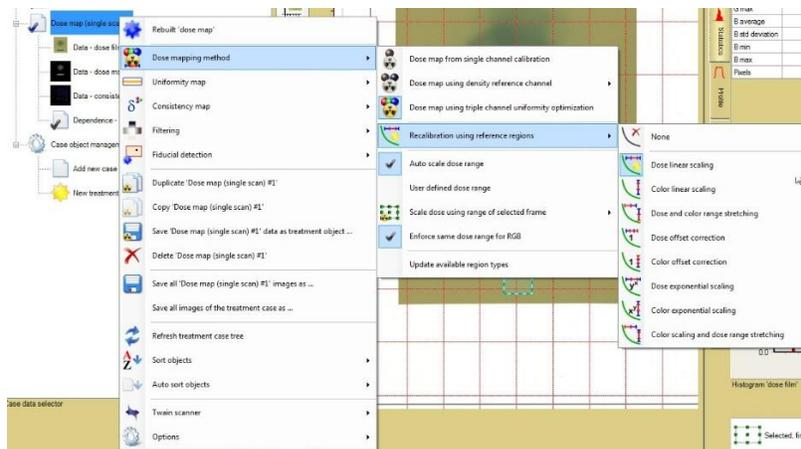
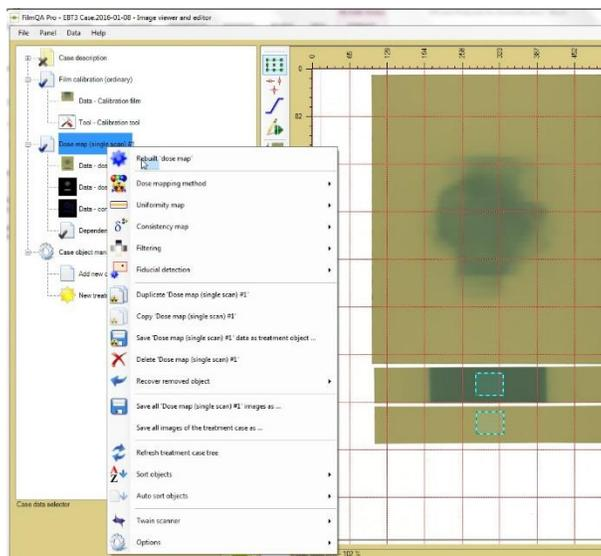

Figure VI-8
Figure VI-9
Step 9: Right click on “Dose map single scan” and select “Dose mapping method”, “Recalibration using reference regions” and “Dose linear scaling” (Figure VI-8). Again right click on “Dose map single scan” and select “Rebuild Dose Map” (Figure VI-9).